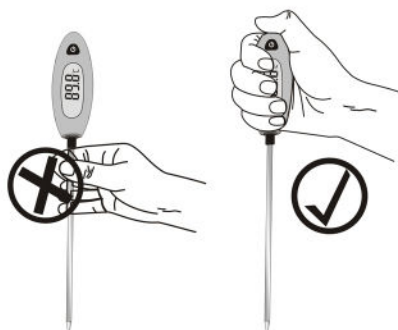

Figure 4
- ▶ Use this product by correct method (as shown in Figure 4), While measuring the high-temperature object don't touch the probe by hand so as to avoid scalding